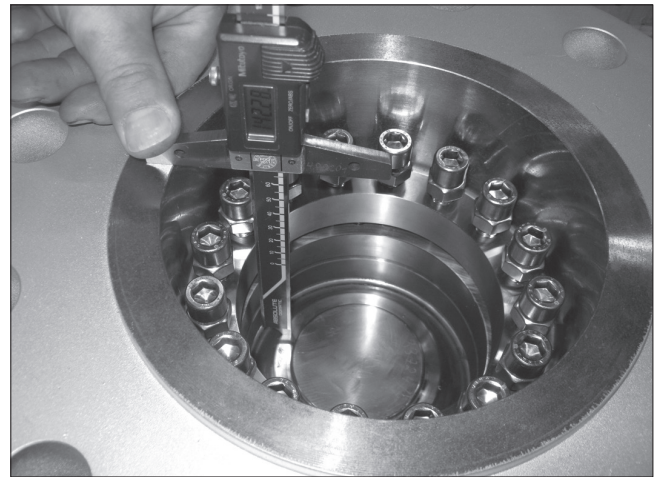

Fig. 12 Checking the closed position by means of depth measurement
- Fix the actuator with the appropriate screws and lock them cross- wise. Finally, check the closed position of the valve by means of multiple depth measurements. The detected data is not allowed to deviate more than 0.3mm (see Figure 12).